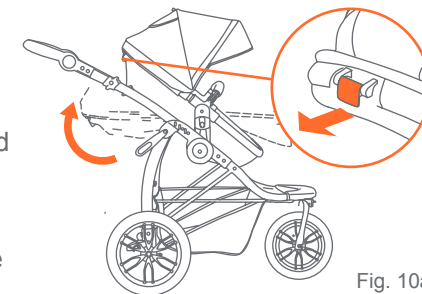

Fig. 10a
- 10) • The seat can be adjusted into upright, reclined, and carriage position. Pull the recline button on the rear of the seat and rotate the seat into the desired position (Fig. 10a).